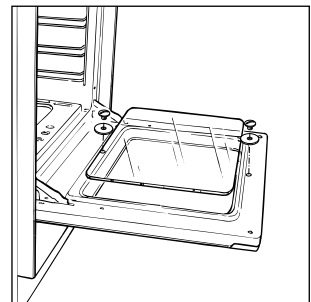

Fig. 35 Oven door glass
- The inner glass door panel can easily be removed for cleaning by unscrewing the two fixing screws (Fig. 35).